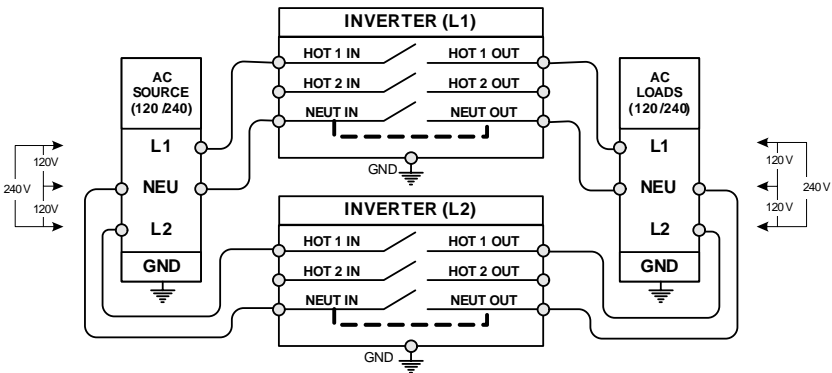

Figure 7, Single In/Single Out (30A with 120/240VAC source)
Figure 7, Single In/Single Out (30A with 120/240VAC source) .....	10
- **Split-phase (120/240VAC)** – This AC type provides both 120 and 240VAC. It has two 120VAC lines (L1 and L2), a neutral and a ground. The two 120VAC lines are 180° out-of-phase with each other, so that the combination of the L1 and L2 lines total 240VAC and the voltage between either L1 or L2 and neutral is 120VAC. When Split-phase power is connected to the HOT 1 IN of each inverter (L1 to one inverter and L2 to the other inverter) and passing through the inverters, the incoming power is shared with the charger and the HOT 1 OUT lines continue to be 180° out-of-phase. This source is the ideal type as it **will be** able to provide 120/240VAC to power loads when inverting and also in charge/transfer mode. See figures 7 and 9.
**AC Input** - Each inverter requires a two-conductor (hot and neutral) plus ground cable, with the hot conductor fed by a circuit breaker. If you decide to use the Single In/Single Out (30A) connection (see figures 7 and 8), each inverter would require a 120VAC hot conductor (protected by a maximum 30A circuit breaker) connected to the HOT 1 IN terminal. The neutral conductor, which must be sized to handle the total current capacity of the HOT 1 IN conductor, must be connected to the NEUT IN terminal and a ground conductor connected to the AC ground terminal on each inverter.
**Single In/Single Out (30 Amps)** - Using a single line (HOT 1) for the input and output provides up to 30 amps AC pass-thru and shares power with the charger. Use this configuration if your AC source is 30 amps or less. See figures 7 and 8 below.
**Note:** The dashed lines between the NEUT IN and NEUT OUT in figures 7 thru 10 represent the RD and MS/AE models. On these versions there is no internal relay between the NEUT IN and NEUT OUT, as they are tied together.